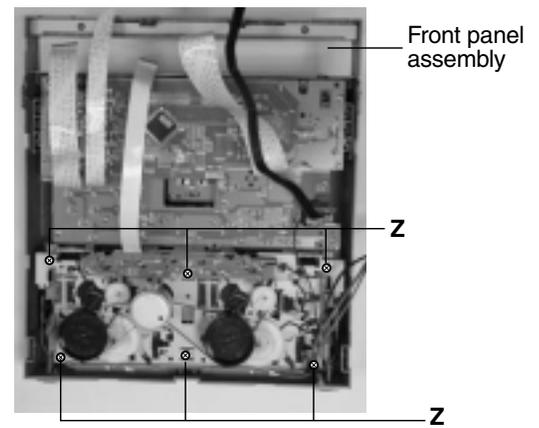

Fig.19
■ **Replacing the CD turn table and removing the motor (See Fig. 19 )**
### ■ Removing the cassette deck mechanism (See Fig.19)
## ■ Removing the cassette deck main motor, and replacing the main belts (See Fig.19, 24 and 25)
1. Remove six screws **Z** retaining the cassette deck mechanism. (Fig.19)
## ■ Removing the leaf switches of the cassette deck mechanism (See Fig. 19 and 26)
1. Remove the six screws **Z** that retain the cassette deck mechanism. (Fig.19)
## ■ Removing the cassette deck heads (See Fig. 19 and 27)
1. Remove six screws **Z** that retain the cassette deck mechanism. (Fig.19)